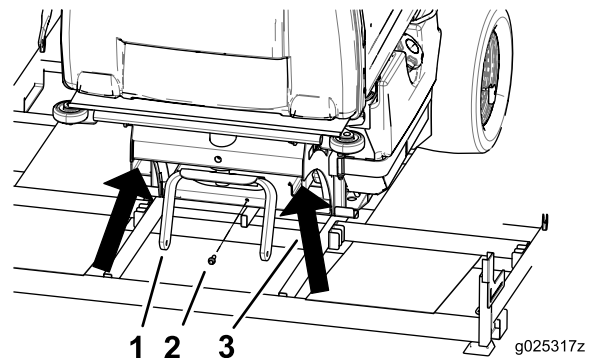

Figure 1
2. Remove the bolt holding the rear-frame support to the frame (Figure 1).
3. Raise the rear of the unit approximately 25.4 to 30.5 cm (10 to 12 inches) and support it with jack stands or equivalent support (Figure 1).